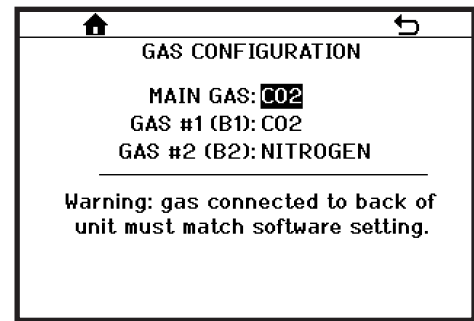

Figure 7.18
- For universal gas dispensers, this menu allows the user to set the gas used for MAIN GAS, GAS #1, and GAS #2 (**Figure 7.18**). The options for MAIN GAS are COMP AIR (compressed air), CO2, or NITROGEN. The options for GAS #1 and GAS #2 are CO2 or NITROGEN. Ensure the correct gas is selected in this menu (**Figure 7.19**) to avoid issues with the drink profile.